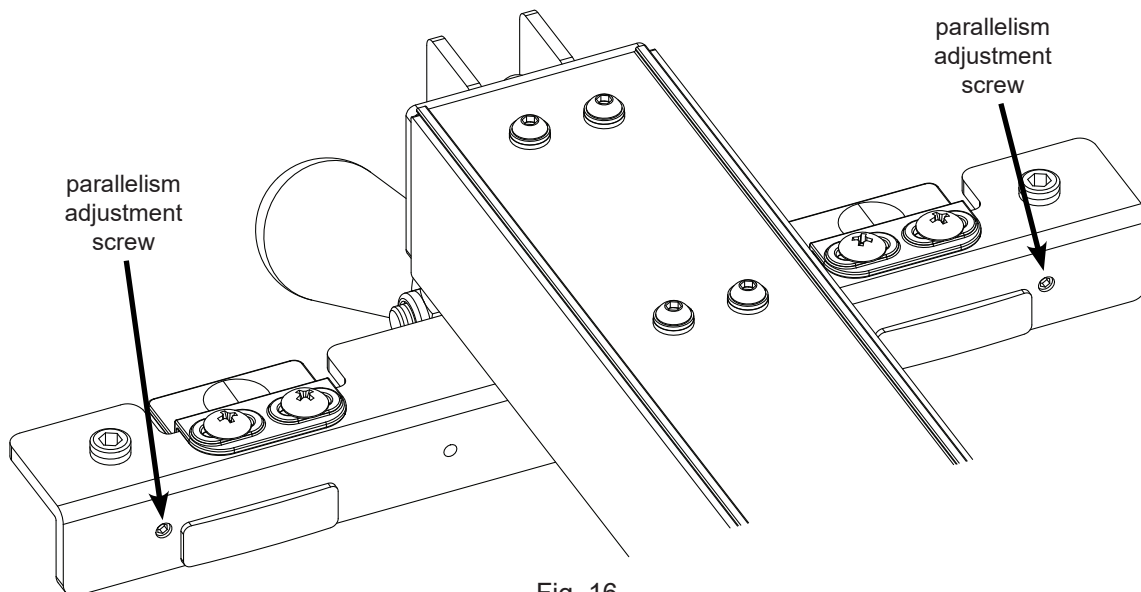

Fig. 16
16. Press down on the fence handle to clamp the fence to the main tube. If the fence does not clamp tightly enough to hold its position against a moderate amount of force, you can increase the clamping pressure by turning both parallelism adjustment screws clockwise using a 3 mm hex wrench. Those screws are located in the vertical portion of the fence cross-bracket (see Fig. 16). Alternatively, if too much force is required to push the fence handle down to clamp the fence to the main tube, you can reduce the clamping pressure by turning both parallelism adjustment screws counter-clockwise.
The next step is to align the face plates to be parallel to the miter slots. Begin by sliding the fence along the main tube until the left face plate is flush with the right edge of the right miter slot. Lock the fence handle and check that the face plate is flush with the miter slot edge along its whole length (see Fig. 21). You can check this either visually or by running your finger along the face plate and miter slot edge. If there is any misalignment, you can correct it by turning one of the two parallelism adjustment screws in the vertical edge of the fence cross-bracket (see Fig. 16).